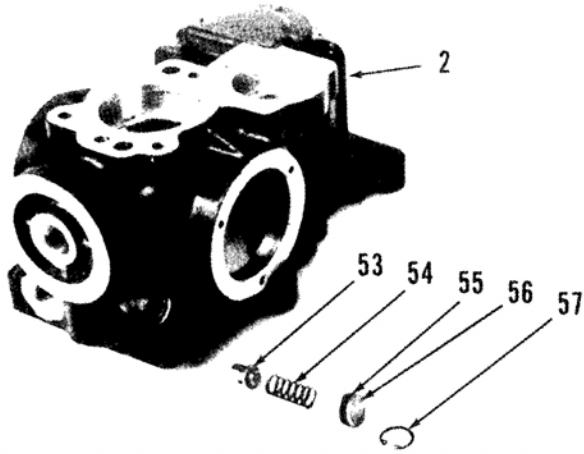

Fig. 67—Exploded view showing charge relief valve located in transmission case (2).
Remove charge relief valve shown in Fig. 67. Inspect valve (53 - Fig. 67) for heavy scratches, burrs, corrosion, excessive wear and any other damage. Inspect spring (54) for any deformities and broken coils.
Install snap ring (57 - Fig. 67) with its square edge (opposite edge is rounded) facing out.